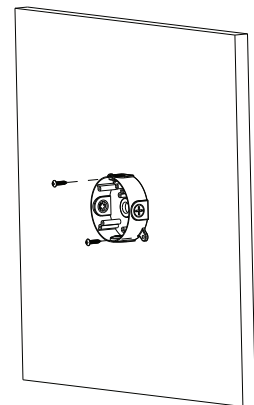

Fig. 4
4. Secure the round base junction box to the wall with screws (see Fig. 4).
7. Realign the heatsink and base junction box and reassemble with the four (4) socket head screws.